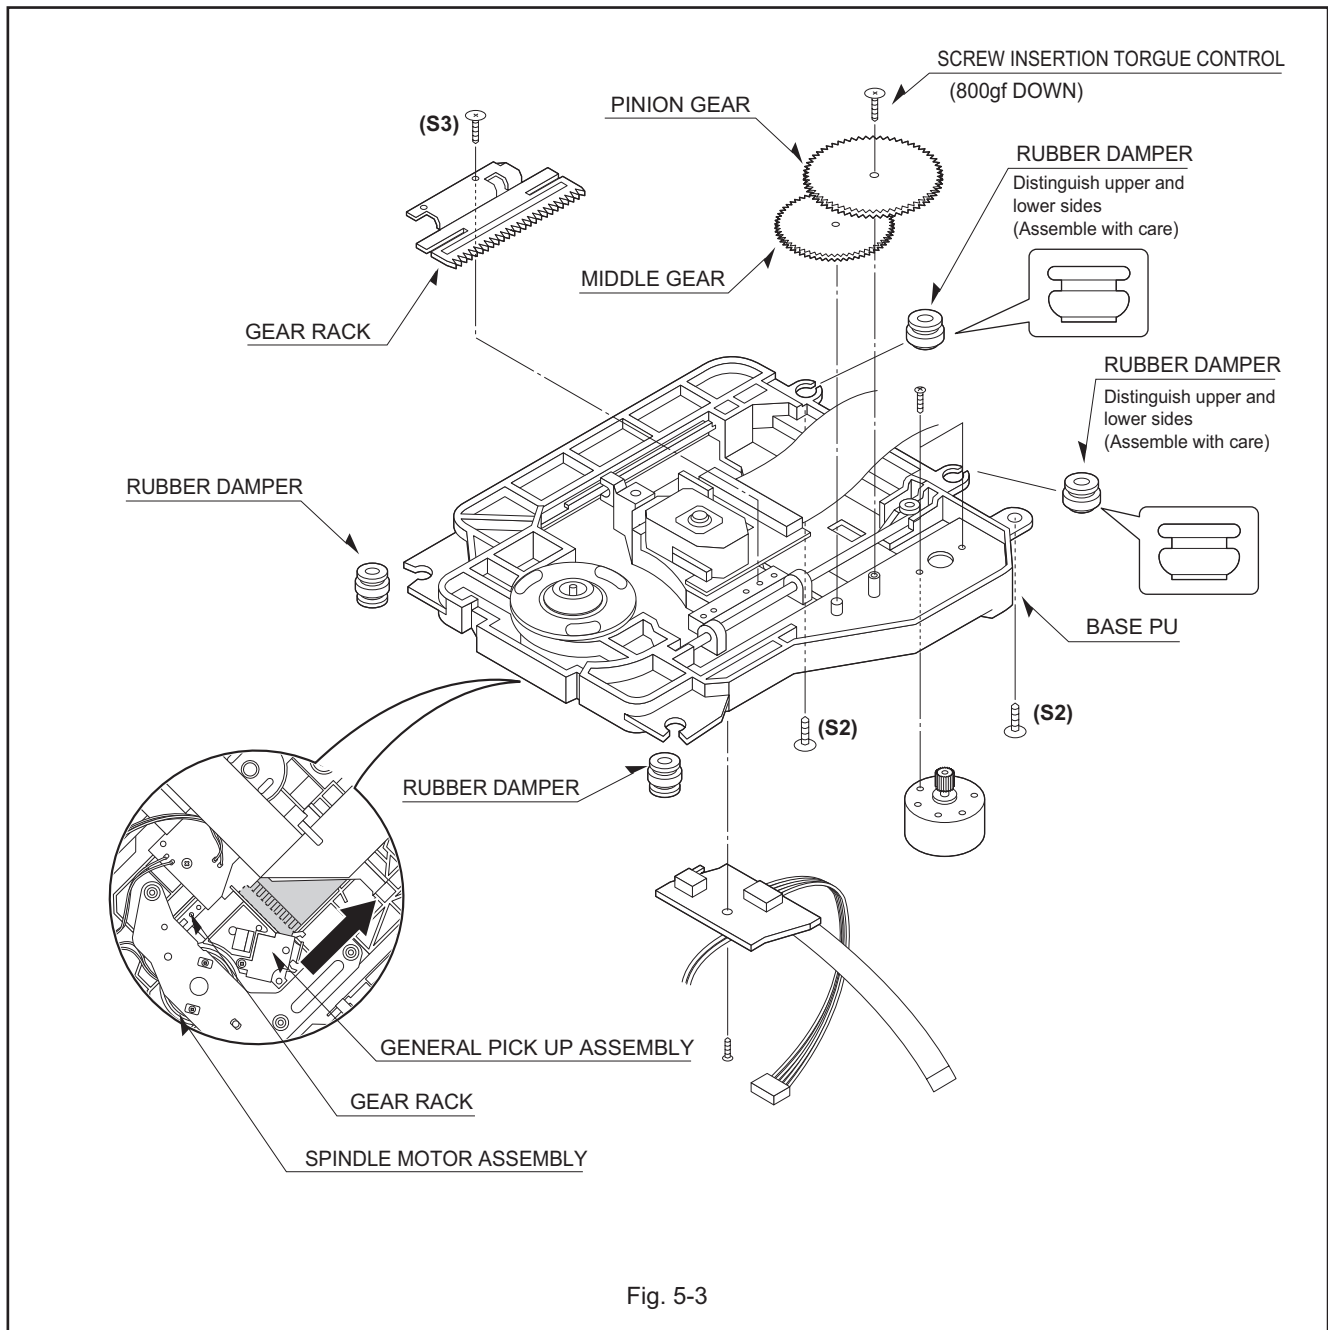

Fig. 5-3
3.Base Assembly Sled (Fig. 5-3)
4. Rubber Rear (Fig. 5-3)